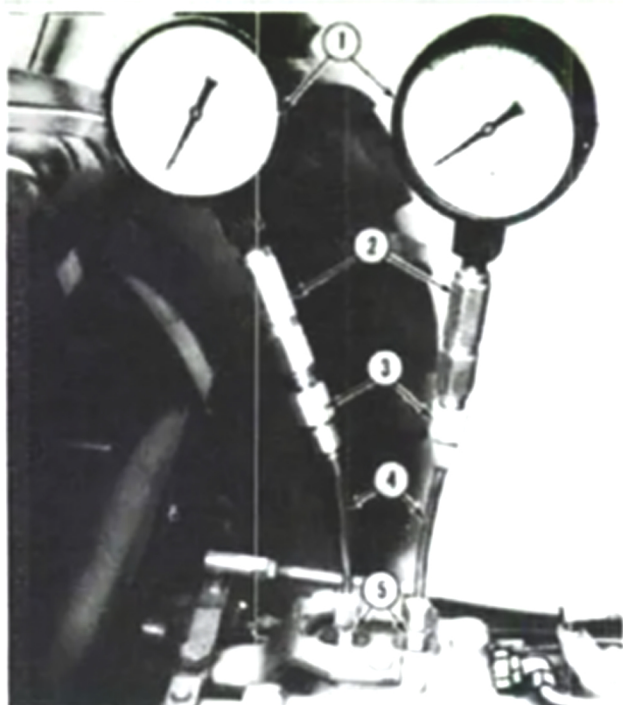
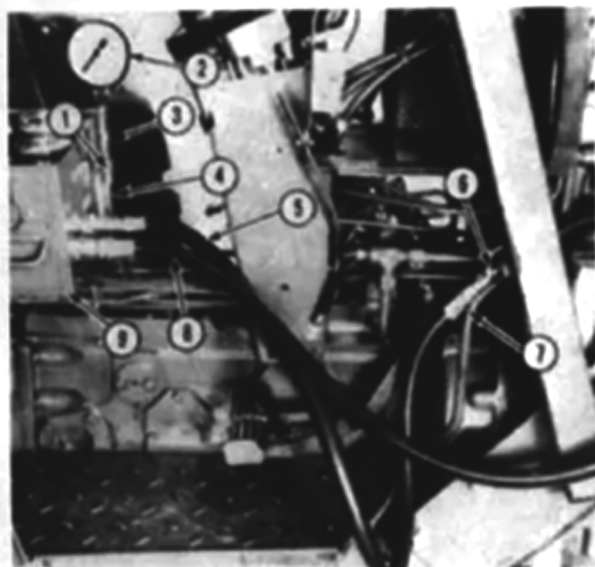

Fig. 102—Test gages installed for checking drive pressure.
Fig. 105 — View showing Flo-Rater connected in series with the oil cooler return line when checking charge flow.
90. DRIVE PRESSURE. To check the forward and reverse drive pressure, support rear of tractor so both rear wheels are free to rotate. Operate tractor until transmission oil is warmed to a temperature of 135°F. Remove the tunnel cover and connect two 10000 psi test gages in the test ports of drive control valve as shown in Fig. 102. Start engine and shift range transmission to Hi position. Set engine speed at 2400 rpm. Raise the S-R lever and slowly move it forward one inch while applying both brakes.
To check charge flow, connect the inlet hose of a Flo-Rater to the return line from the oil cooler as shown in Fig. 105. Connect the outlet hose of the Flo-Rater to the return line going to the transmission.
the multi-valve. Low charge pump flow will indicate pump damage or leakage at valve plates, bearing plates, pistons and center section which would allow charge fluid to escape from the closed loop circuit. If charge pump pressure and flow is satisfactory in neutral at the given engine speeds, connect 10000 psi test gages in forward and reverse test ports in drive control valve as shown in Fig. 102. Connect a Flo-Rater in series with oil cooler return line (Fig. 105). Then, check forward and reverse drive pressure and charge pump flow at the same time.